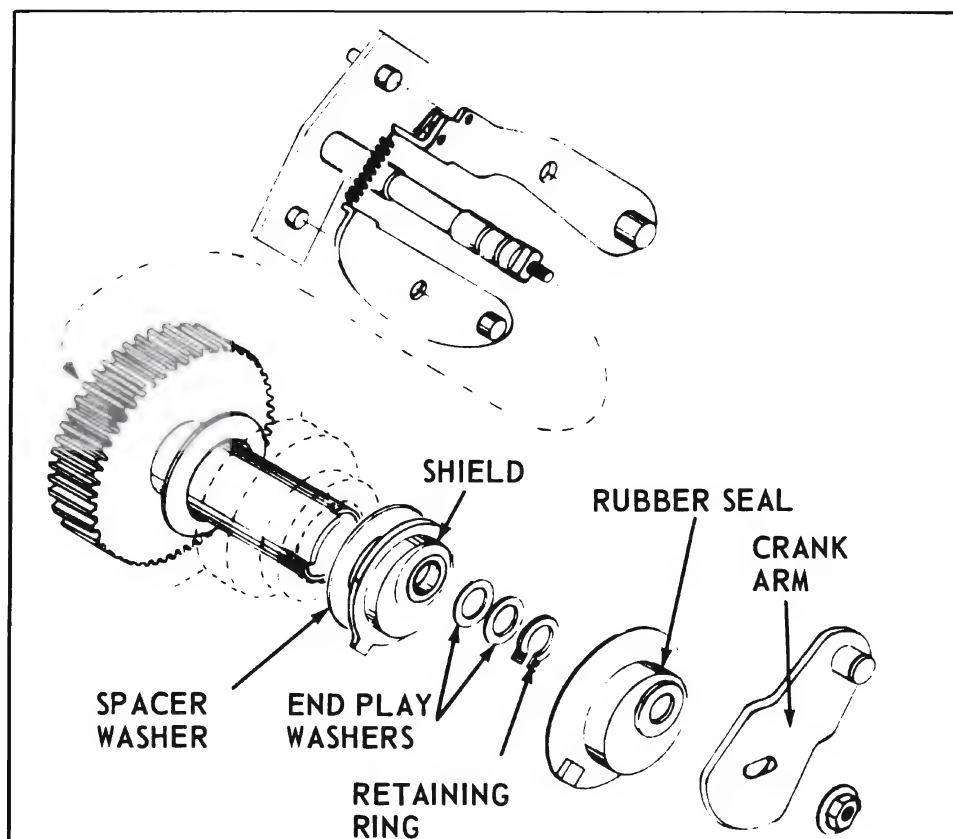

Figure 10-124—Drive Gear Mechanism
1. Remove the crank arm retaining nut. See Figure 10-124.
1. Gear assembly end-play is controlled by end-play washers located between the seal cap and shield. See Figure 10-124. End-play should be .006.